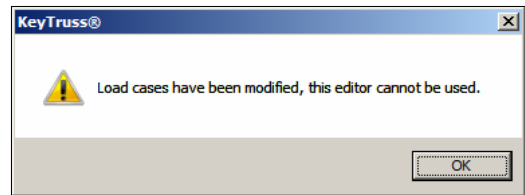

Figure 182: Error attempting to use the *User Load Input Macro* tool.
**WARNING!** If you attempt to open the *User Load Input Macro* tool after creating new load cases using the *User Load Cases/Combos* tool, a warning message like the one pictured in Figure 182 will open.